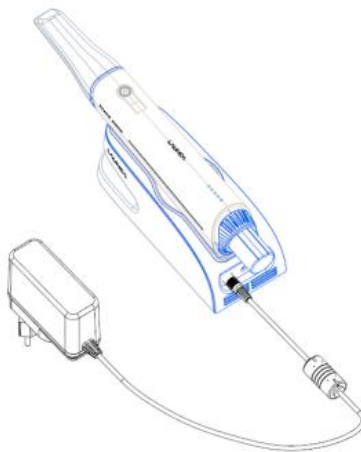

Fig. 1-6 Power Interface Diagram
① Plug the RJ45 data cable on the camera adapter unit into the converter, and plug the USB data cable on the Converter into a Notebook. Then the camera adapter unit is connected to AC power as shown in Fig 1-6.